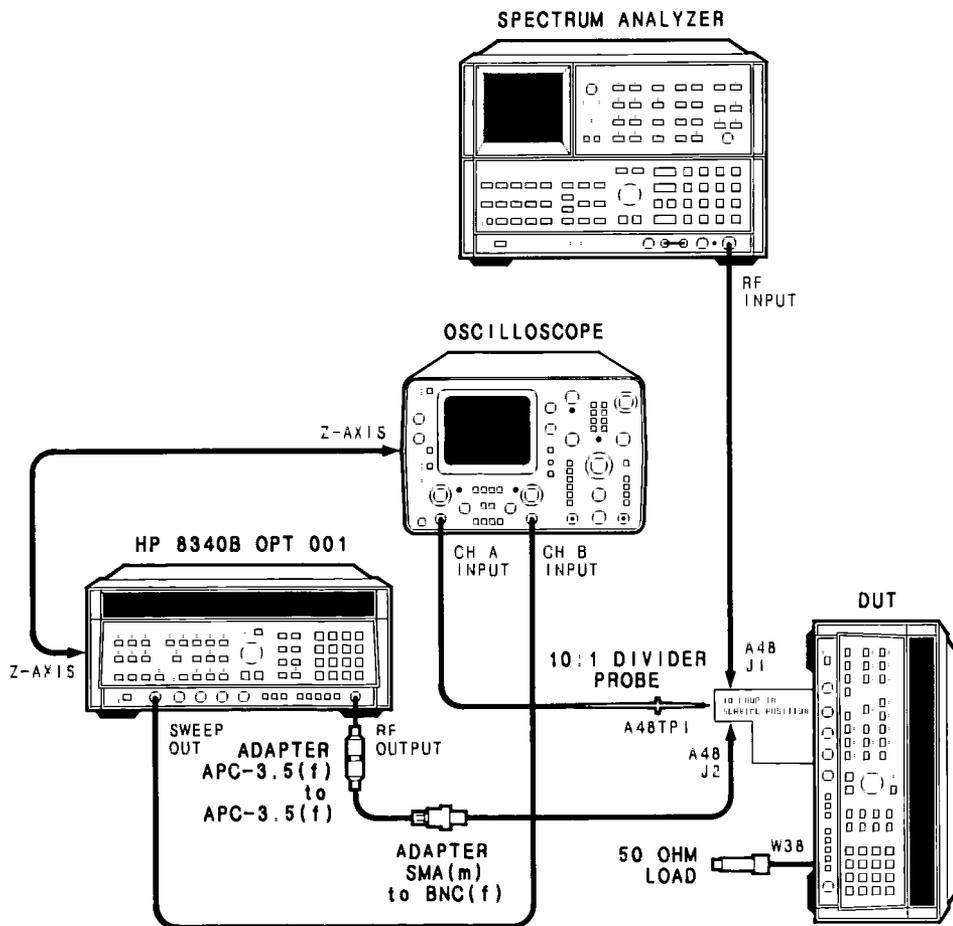

Figure 5-18. YO Loop Adjustment Setup
- Place the DUT in the test position shown in Figure 5-18 and remove the top and bottom covers. Disconnect the rigid cable (W3) going into the A45 Directional Coupler RF Output through a hole in the mother board (top of the DUT). Put the YO Loop section in the Service Position. Disconnect all the cables that connect to A48 and A49 PC boards. Remove the A48 YO Loop Sampler assembly cover. Connect a 50 Ohm load to W38 at the end that connects to A49J2.
- Connect the test equipment as shown in Figure 5-18 ( do not connect the Spectrum Analyzer yet). Set the LINE switch to ON and allow ½ hour warmup.